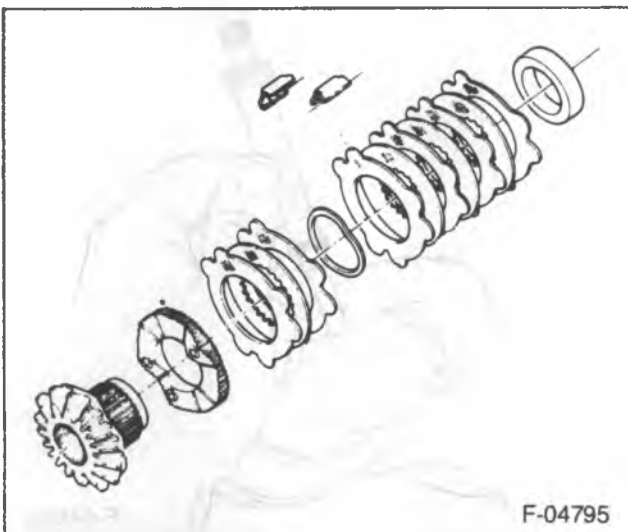
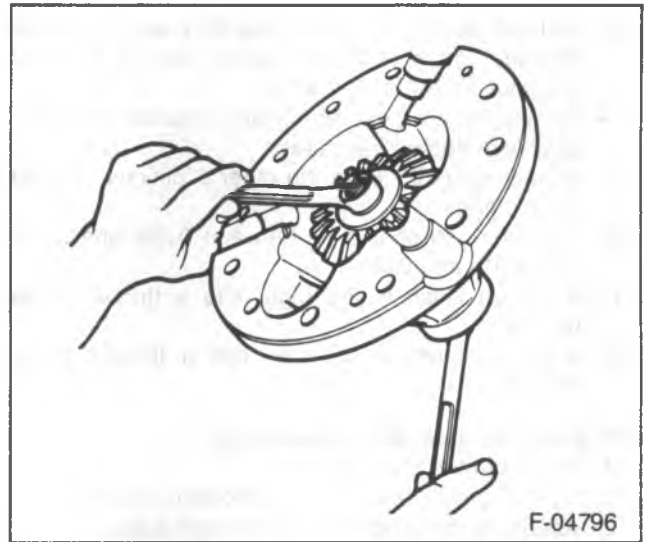

Figure 12—Cam Unit Components
Figure 13—Clamping the Cam Unit In Place
1. Cam plate (33) to the cam side gear (40).
- Alternate the plates, and position the wave spring as shown in figure 12.
4. Thrust sleeve (35).
5. Guide clips (34) to the plates.
- If the side gear or thrust sleeve has been replaced, measure and record the overall length of the gear to the back of the thrust sleeve (35) including the side gear thrust washer (36).
1. Install the cam unit and thrust washer (36) to the right case half.
2. Clamp the cam unit in place using a set of washers, nut, and a bolt long enough to hold the cam unit in place (figure 13).
- Alternate the plates as shown in figure 12.
2. Assemble the guide clips (47) to the plates.
3. Install the thrust washer (45), clutch plate assembly (44), and left side gear to the differential.
4. Clamp the side gear in place using a set of washers, a nut, and a bolt long enough to hold the side gear in place (figure 13).